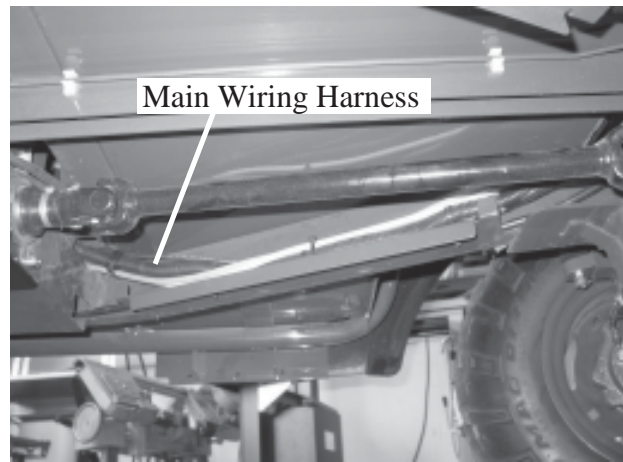

Figure 10
2. Route the cables along the main electrical harness, Figure 10. Secure the cables with the cable ties supplied in the winch kit.